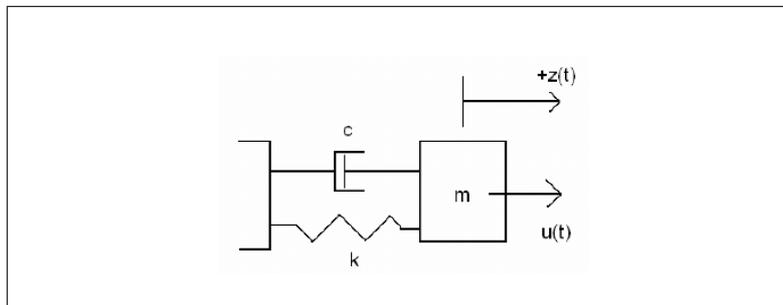

Figure 1: Mass/Spring/Damper System
- 4 The example which we are going to handle in this tutorial is the Mass/Spring/Damper system. In Figure 1, $z(t)$ denotes the hori-